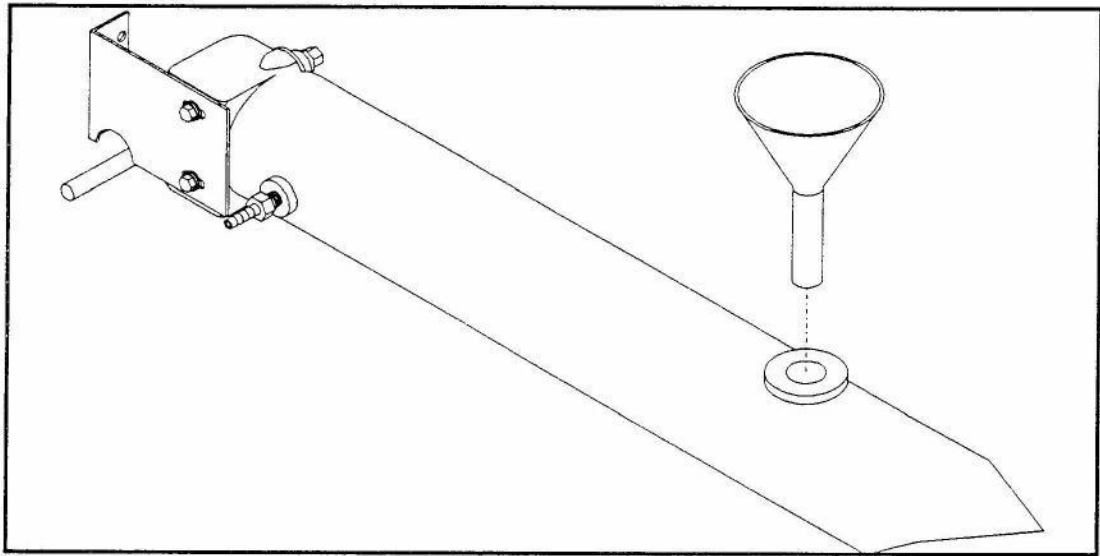

Figure 5
8. Fill the cleaner tank with the cleaner selected for use. See Figure 5.